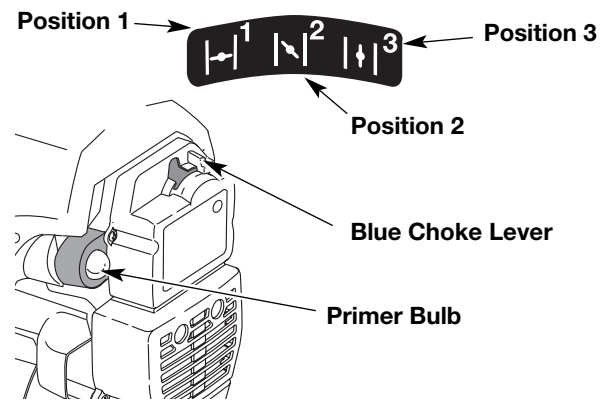

Fig. 11
2. Fully press and release the primer bulb 10 times, slowly. Some amount of **fuel should be visible in the primer bulb** and fuel lines (Fig. 11). If you can't see fuel in the bulb, press and release the bulb as many times as it takes before you can see fuel in it.
3. Place the blue choke lever in Position 1 (Fig. 11).